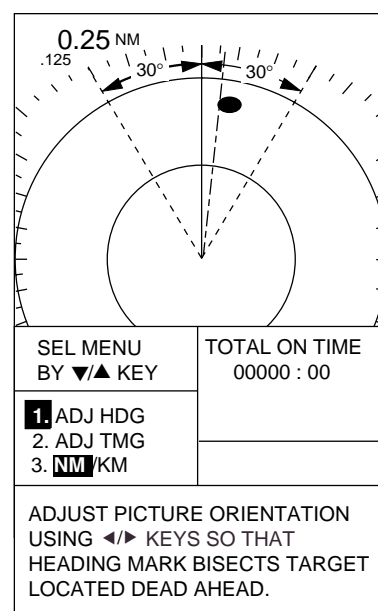

Figure 3-11 Display for adjustment of heading
3. Select ADJ HDG. Your display should now look something like the one shown in Figure 3-11.